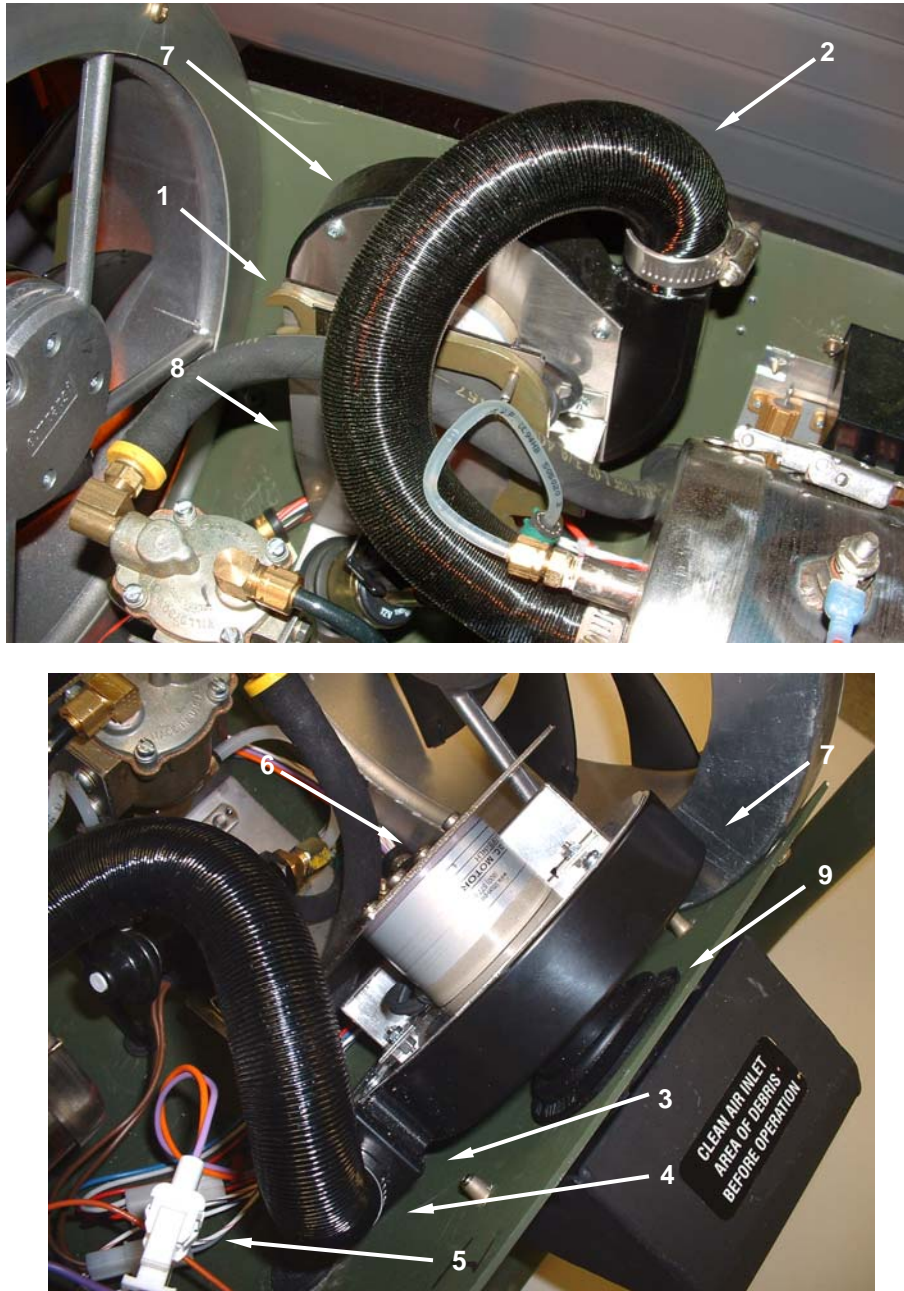

Figure 1. Combustion Air Blower Assembly.
6. Connect electrical connectors (**Figure 1, Item 5**).
7. Lower the new combustion blower assembly (**Figure 1, Item 7**) into the lower housing, guiding the combustion air inlet (**Figure 1, Item 9**) through the hole in the side wall of the lower housing.
9. Install four screws (**Figure 1, Item 6**) and connect air blower assembly (**Figure 1, Item 7**) to bracket (**Figure 1, Item 8**).
10. Install the hose clamp (**Figure 1, Item 4**) and combustion air blower hose (**Figure 1, Item 2**) onto the outlet (**Figure 1, Item 3**) of the combustion air blower assembly. Tighten the hose clamp securely.
11. Return wrench (**Figure 1, Item 1**) to holding clip.
12. Turn on heater and verify that combustion blower assembly (**Figure 1, Item 6**) operates correctly.